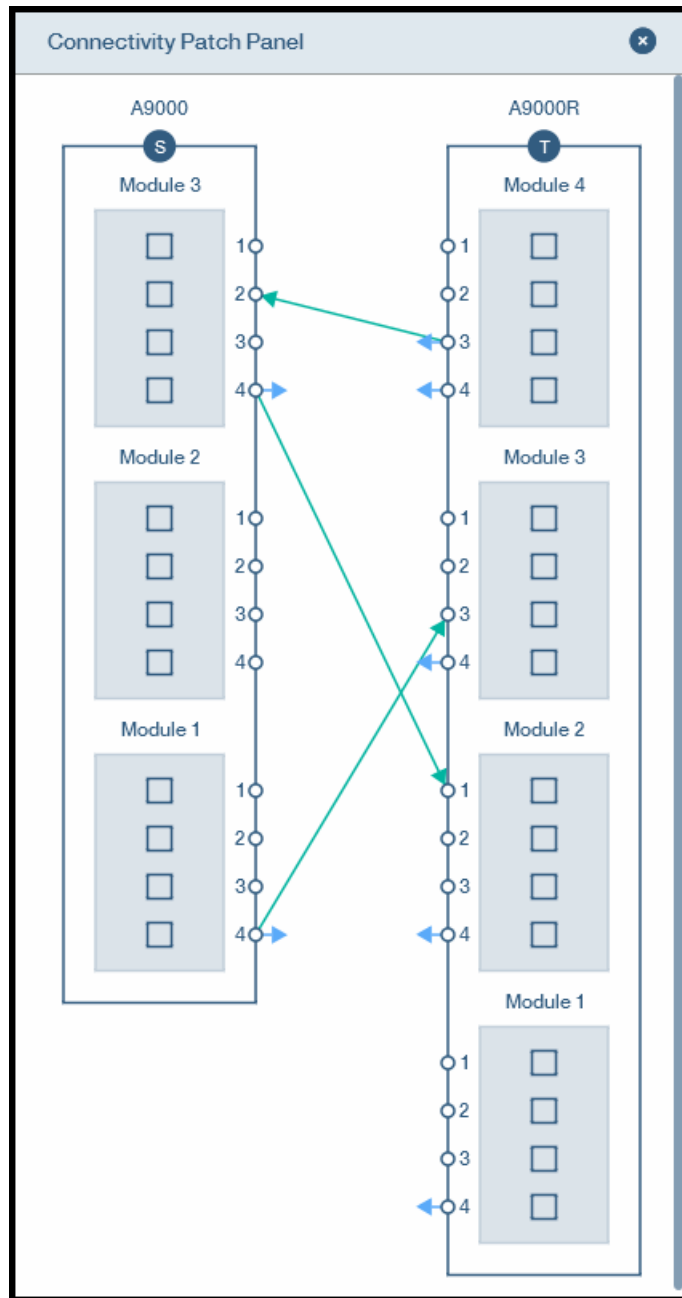

Figure 1-24 Connectivity Patch Panel (FC) in Hyper-Scale Manager
- Click **Connectivity Details** to open the Connectivity Patch Panel view that shows the active connections between Source and Target, as shown in Figure 1-24 (FC connections).
Note: The connectivity shown in Figure 1-24 is an example of FC connections and is *not* intended to reflect connectivity best practice.